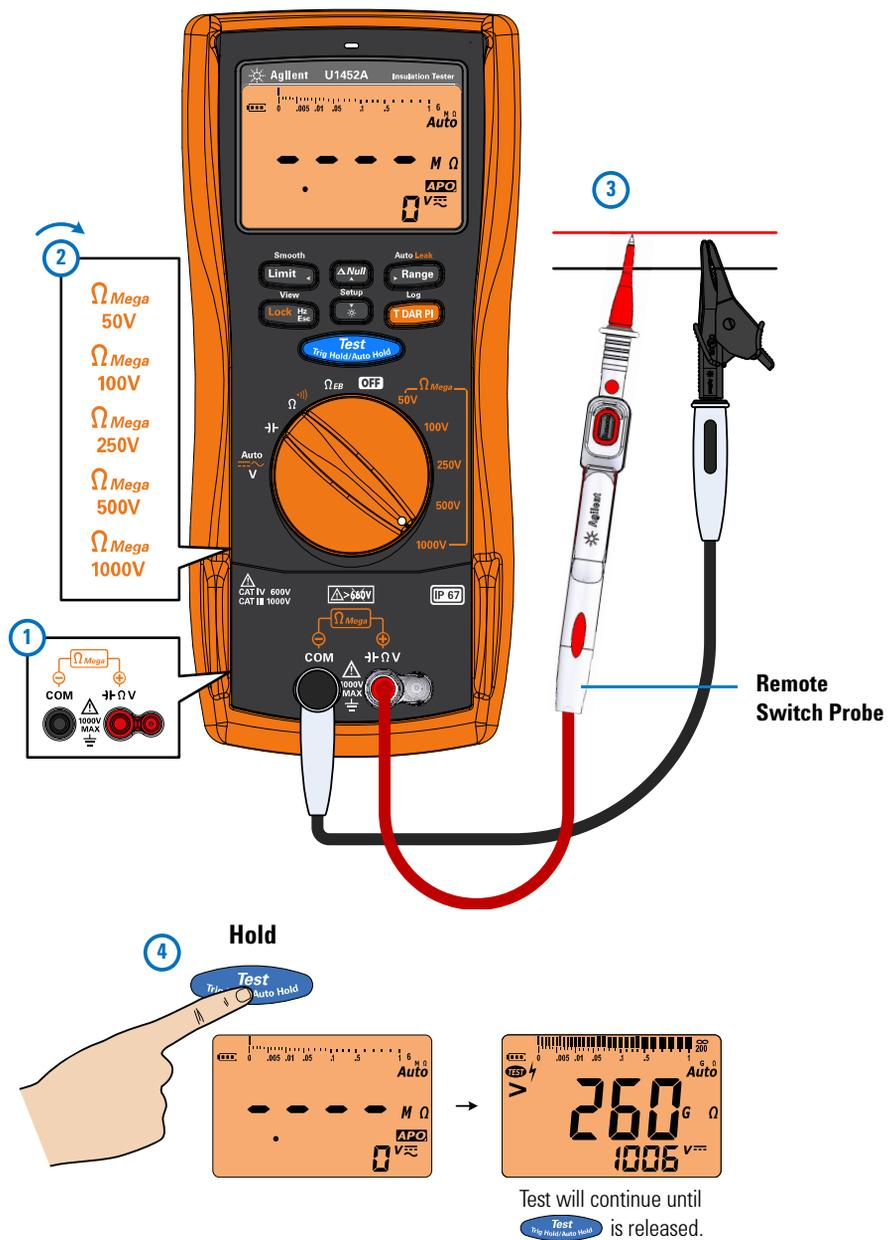

Figure 2-1 Insulation resistance test example
Set up your tester as shown in **Figure 2-1**. Set the rotary switch to a test voltage value that does not exceed the maximum voltage limitation of the circuit under test. Ensure that the device-under-test (DUT) is de-energized before performing any resistance measurement.
Use the timed test to obtain measurement results with consistent test times – for later comparisons. Set up your tester as shown in **Figure 2-1**, and follow the steps shown below.
Dielectric Absorption Ratio (DAR) is the ratio of the insulation resistance tested at 60 seconds to the insulation resistance tested at 30 seconds. Set up your tester as shown in **Figure 2-1**, and follow the steps shown below.
Polarization Index (PI) is the ratio of the insulation resistance tested at 10 minutes to the insulation resistance tested at 1 minute. Set up your tester as shown in **Figure 2-1**, and follow the steps shown below.